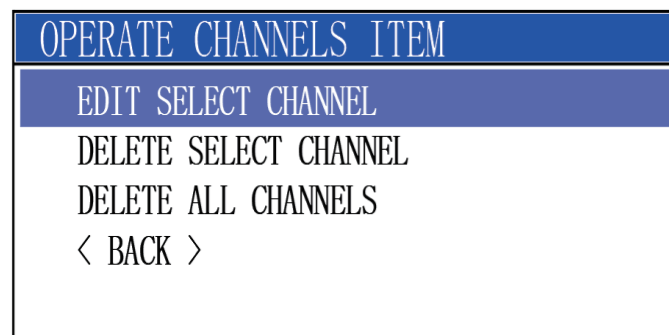

Figure6.2.1
- b: Select the channel number you want to edit, then press the [ENT] key to open the channel operation dialog, as shown in Figure 6.2.1. Select <EDIT SELECT CHANNEL> and press the [ENT] key to open the editing dialog.